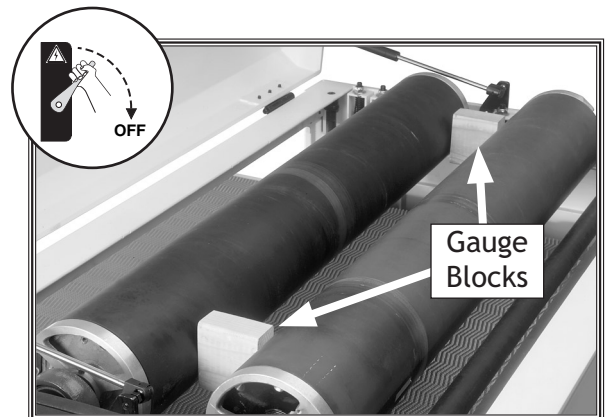

Figure 53. Example of small gauge block positioned between front and rear drums.
10. Place the small gauge blocks on each end of the pressure roller between both drums as shown in **Figure 53**.